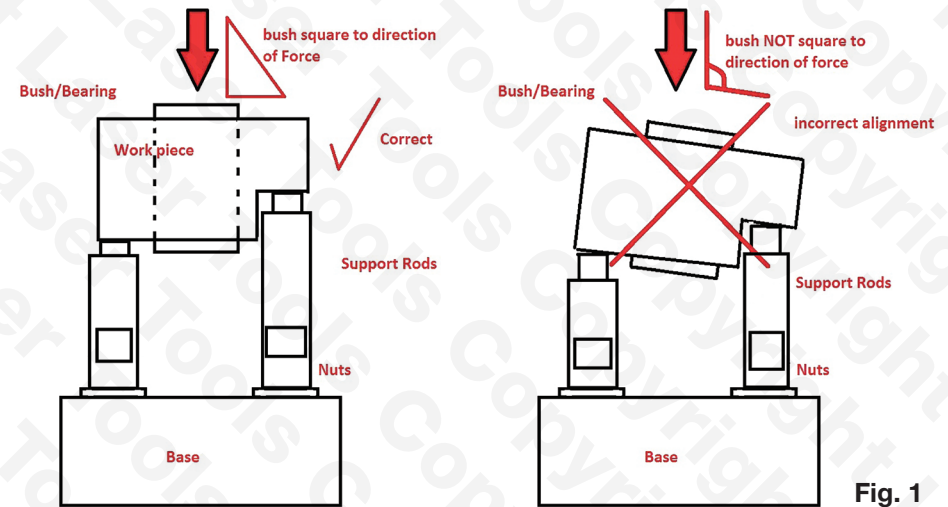

Fig. 1
- Ensure that all support rods are adjusted so the bearing/bush to be pushed out is held square to the press ram. See Fig. 1.